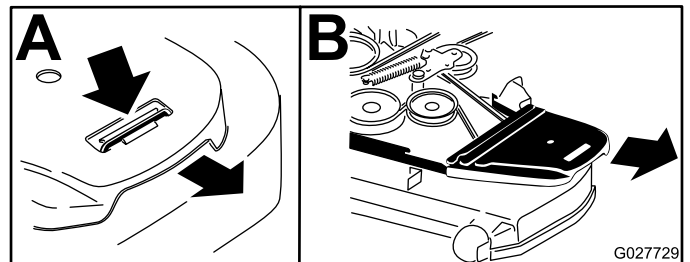

Figure 83
6. Remove the belt covers (Figure 83).